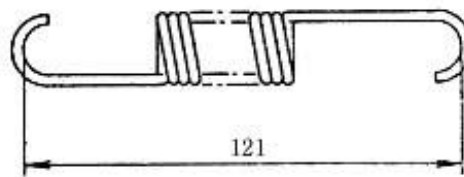

Fig 5-16
(8) Measure the free length and installation load of adjuster spring (Fig 5-16).